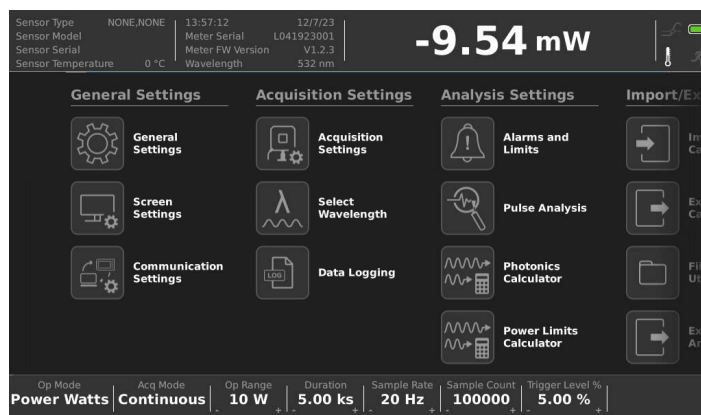

Figure 6-1. Settings Main Menu
The types of measurement modes and the related compatible sensors are described in Figure 6-1.
3. Press the MENU function button to display the Settings menu. Refer to Figure 6-1.
4. Press the **Acquisition Settings** button in the Settings Menu. Refer to Figure 6-1.